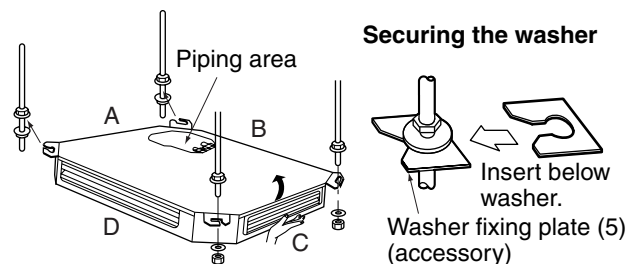

Fig. 17
- Use the washer fixing plate (5) to keep the washer from falling out of place. Hang the unit from the hangers on side A, and then fit the bottom washers and nuts over the suspension bolts on that side. (Refer to Fig. 17)